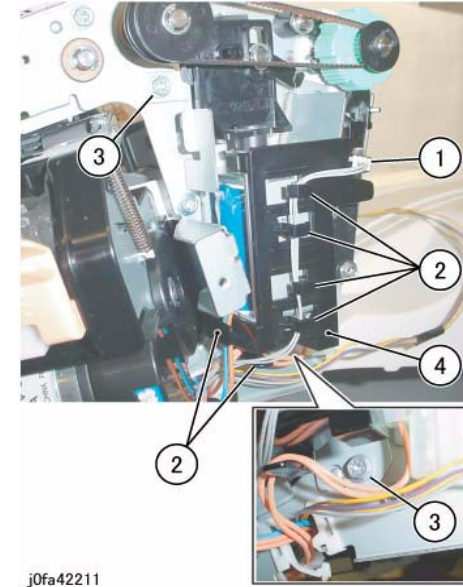

Figure 2 Removing the Sub Paddle Solenoid Assembly
8. Remove the Sub Paddle Solenoid Assembly (Figure 2):